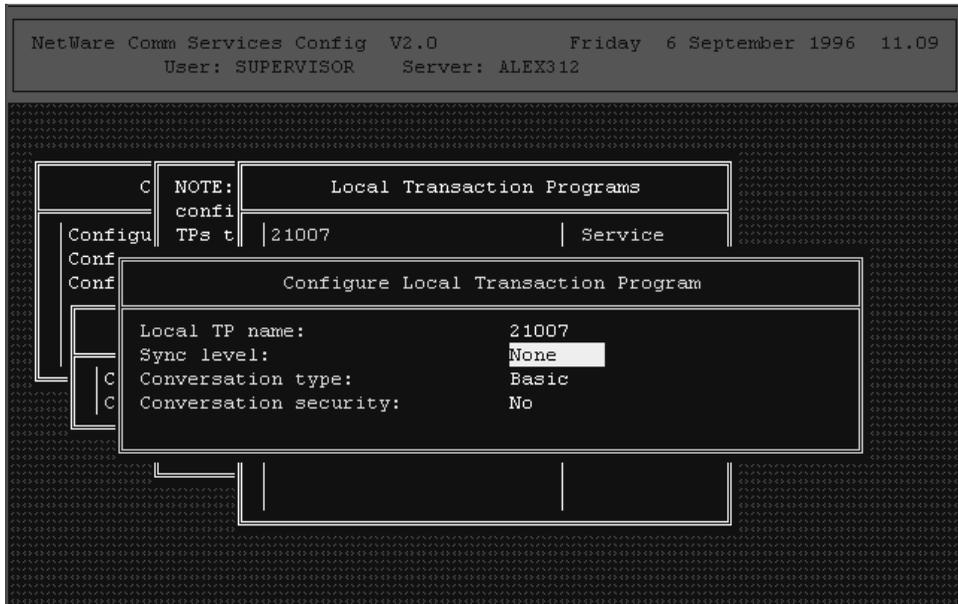

Figure 26. Specifying Transaction Programs
- 8 For each partner LU, configure each transaction program, specifying exactly the values shown in Figure 26 on page 104.